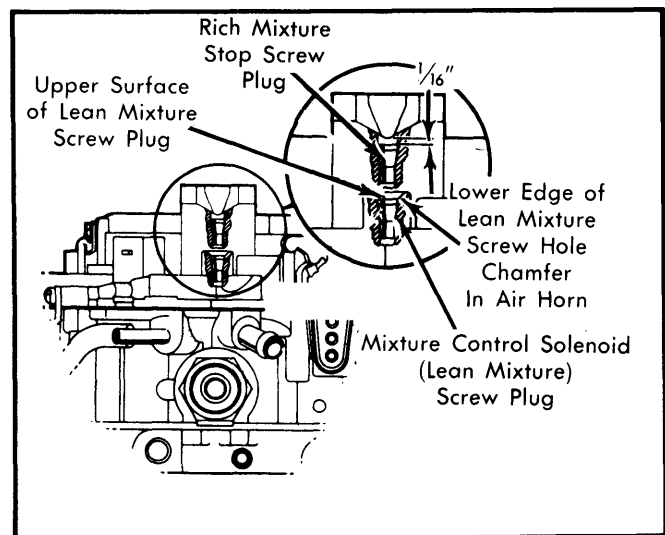

Fig. 14 Installing Lean and Rich Mixture Stop Screws in Air Horn
11) Once solenoid travel is correct set, install new plugs supplied in service kit. Install mixture solenoid screw plug (hollow end down) into hole in raised boss of air horn casting. Using a small punch, drive plug into air horn until upper surface of plug is even with lower edge of hole chamfer. See Fig. 14.